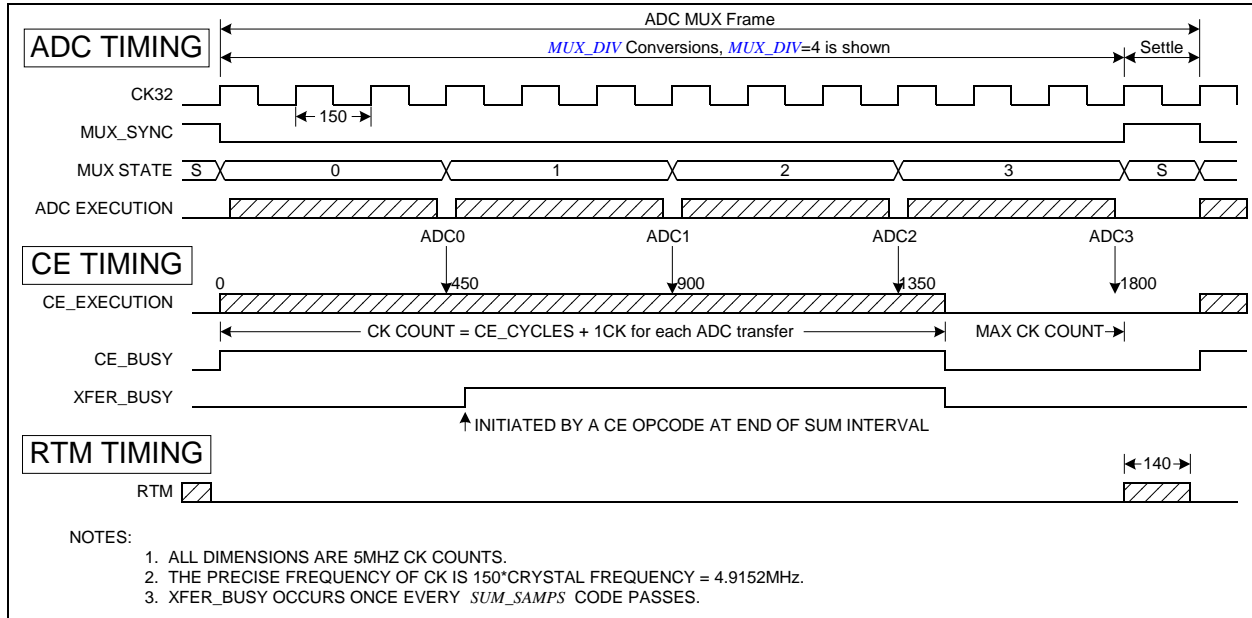

Figure 11: Timing relationship between ADC MUX, CE, and RTM Serial Transfer
Figure 11 summarizes the timing relationships between the input MUX states, the CE_BUSY signal, and the RTM serial output stream. In this example, $MUX_DIV[3:0] = 4$ ($I/O\ RAM\ 0x2100[7:4]$) and $FIR_LEN[1:0] = 10$ ($I/O\ RAM\ 0x210C[1]$), (384), resulting in 4 ADC conversions. An ADC conversion always consumes an integer number of $CK32$ clocks. Followed by the conversions is a single $CK32$ cycle.
Figure 11 also shows that the RTM serial data stream begins transmitting at the beginning of state S. RTM, consisting of 140 CK cycles, always finishes before the next CE code pass starts.